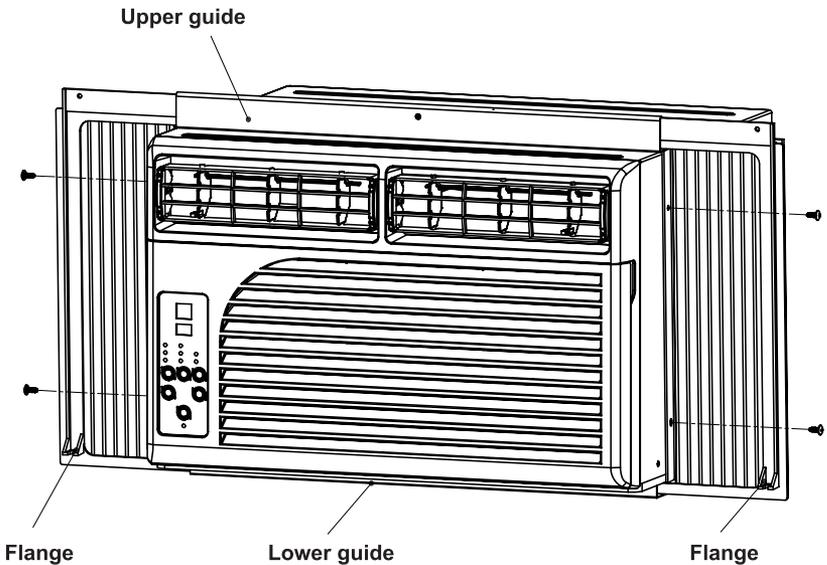

FIG.4
- Insert the side curtains into the upper and lower guides of the air conditioner. Fasten the curtains to the the unit with screws as shown in FIG.4.
There is a left and a right crutain. be sure to use the proper curtain for each side. Hold the according curtain in one hand and gently pull back the center to free the open end. See FIG.4.(When installed the flange for securing the curtain into the window sill will be facing the room side.)